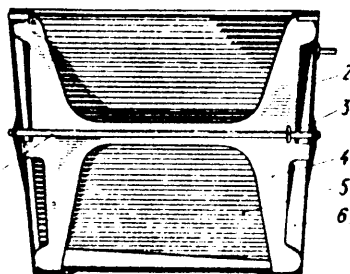

Fig. 4. Mount with mirror:
- 4.6. **Mirror.** Place frame 2 (Fig. 4) with mirror 6 into horizontal position. By depressing hold-down 4 unlock washer 3 of axle 1 in the hold-down slot. Remove the axle and the frame with the mirror.